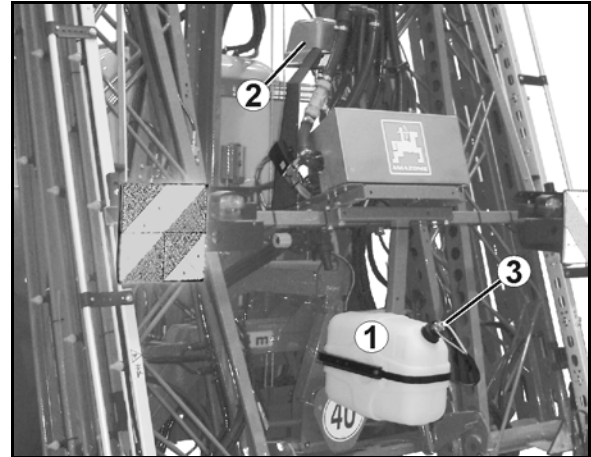

Fig. 106
- enables the constant circulation of liquid in the spray line. For these purposes, a suction port hose (Fig. 106/1) is assigned to each part width section.
- one suction port hose (Fig. 106/1) per part width section.